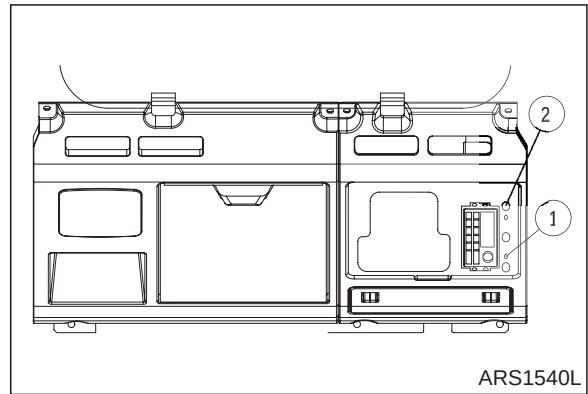
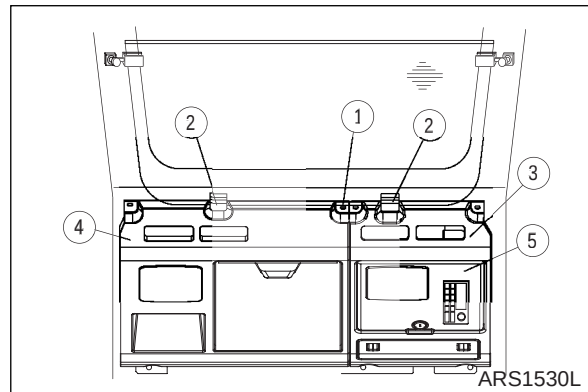

Figure 10
Figure 11
9. Install stereo assembly with bolts (2, Figure 10) after connect speaker wire and antenna wire.
10. Lift right side dash cover (4, Figure 11) with bolts (1, Figure 10). Install two rubbers (2, Figure 11).
11. Install left side dash cover (3, Figure 11) with bolts (1, Figure 10). Install two rubbers (2, Figure 11).
12. Install cover (5, Figure 11) on left side dash cover (3).